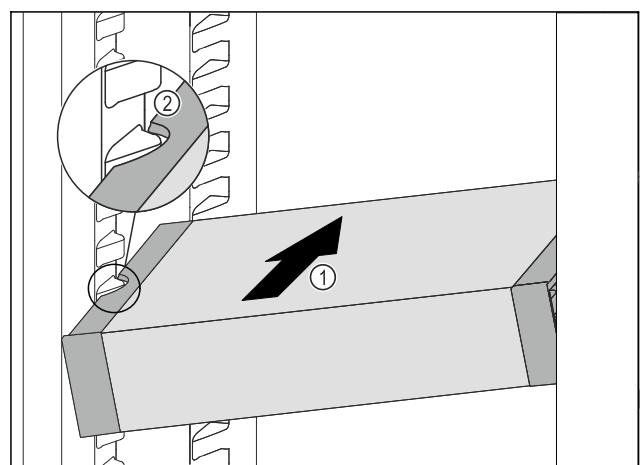

Fig. 90
► Insert the VarioSafe into the fridge section at an angle Fig. 90 (1) until the recesses in the side Fig. 90 (2) of the VarioSafe are at the level of the support rib in the fridge section.